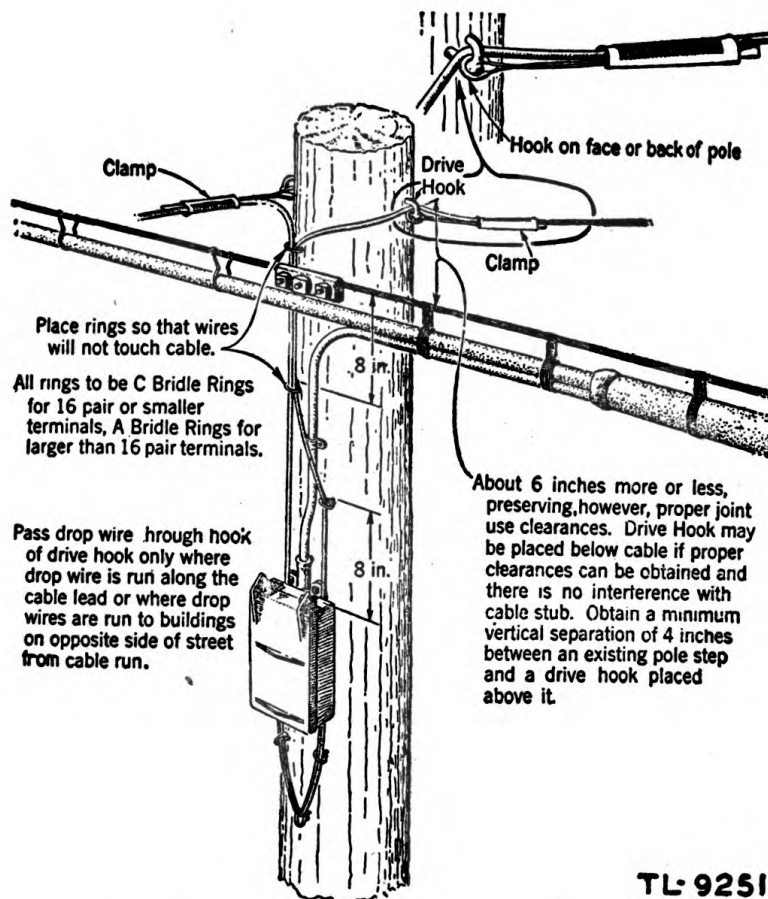

Figure 59. Typical drop wire runs from poles not requiring guardarms.
**a. RUNS FROM POLES NOT REQUIRING GUARDARMS.** (1) Distribute drop wire from drive hooks attached to the face or back of poles not requiring guardarms. (See fig. 59.) If brackets and knobs have been previously installed and are only partially filled, distribute drop wire from vacant grooves of the knobs. Do not attach more than two drops to a "T" knob, or more than one drop to an "S" knob.
(2) Vertical distance from suspension strand to drive hook may be varied to obtain proper clearances.
(3) Attach drop wire clamp to drive hook by passing the wire loop of the clamp over the drive hook. When the direction of the drop span is such that it will not tend to pull around to the hook end of the drive hook, place the loop of the drop wire clamp on the shank of the drive hook. Otherwise, place the loop over the hook. Place the drop wire through the hook of the drive hook only when the drop wire is run along the cable lead, or when drop wires are run to buildings on the opposite side of the street from the cable run.
(4) Pull the ring wiring on the vertical pole run tight, to avoid unsightly slack. Do not pull the ring wiring so tight, however, that strain is taken off the loop of the drop wire clamp.